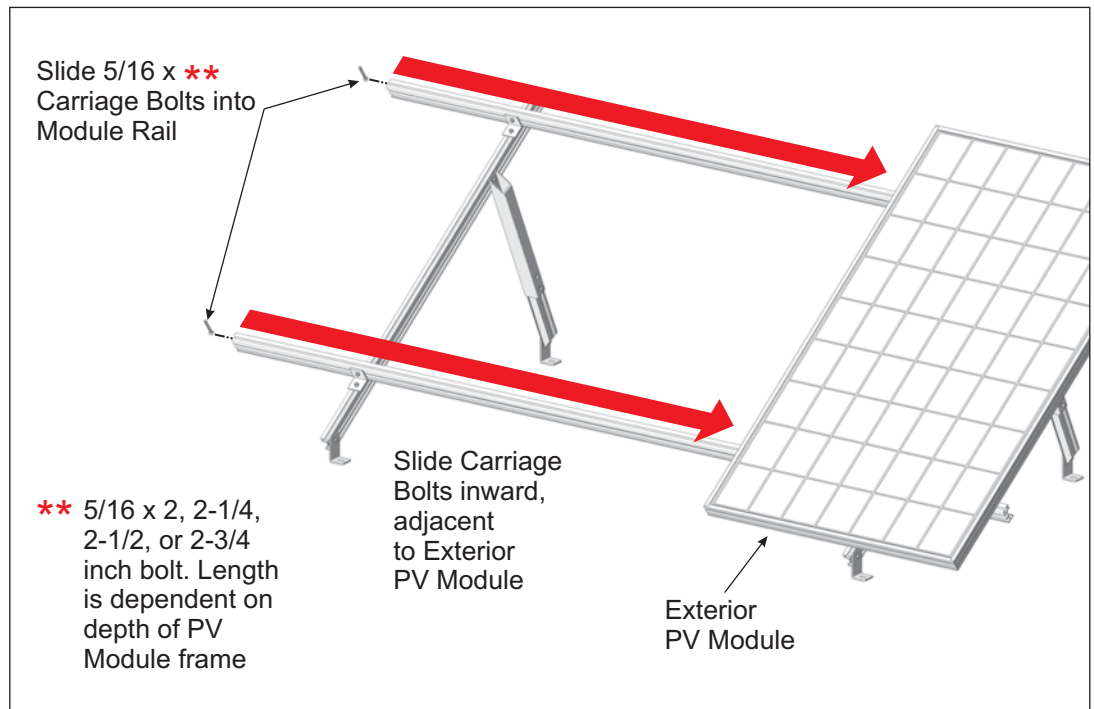

Figure 9-5: Inserting Mid Clamp Hardware into Power Rail
- B. Slide the mid clamp fasteners to be flush with the edge of the installed module frame, opposite the end clamps. (See Figure 9-5)